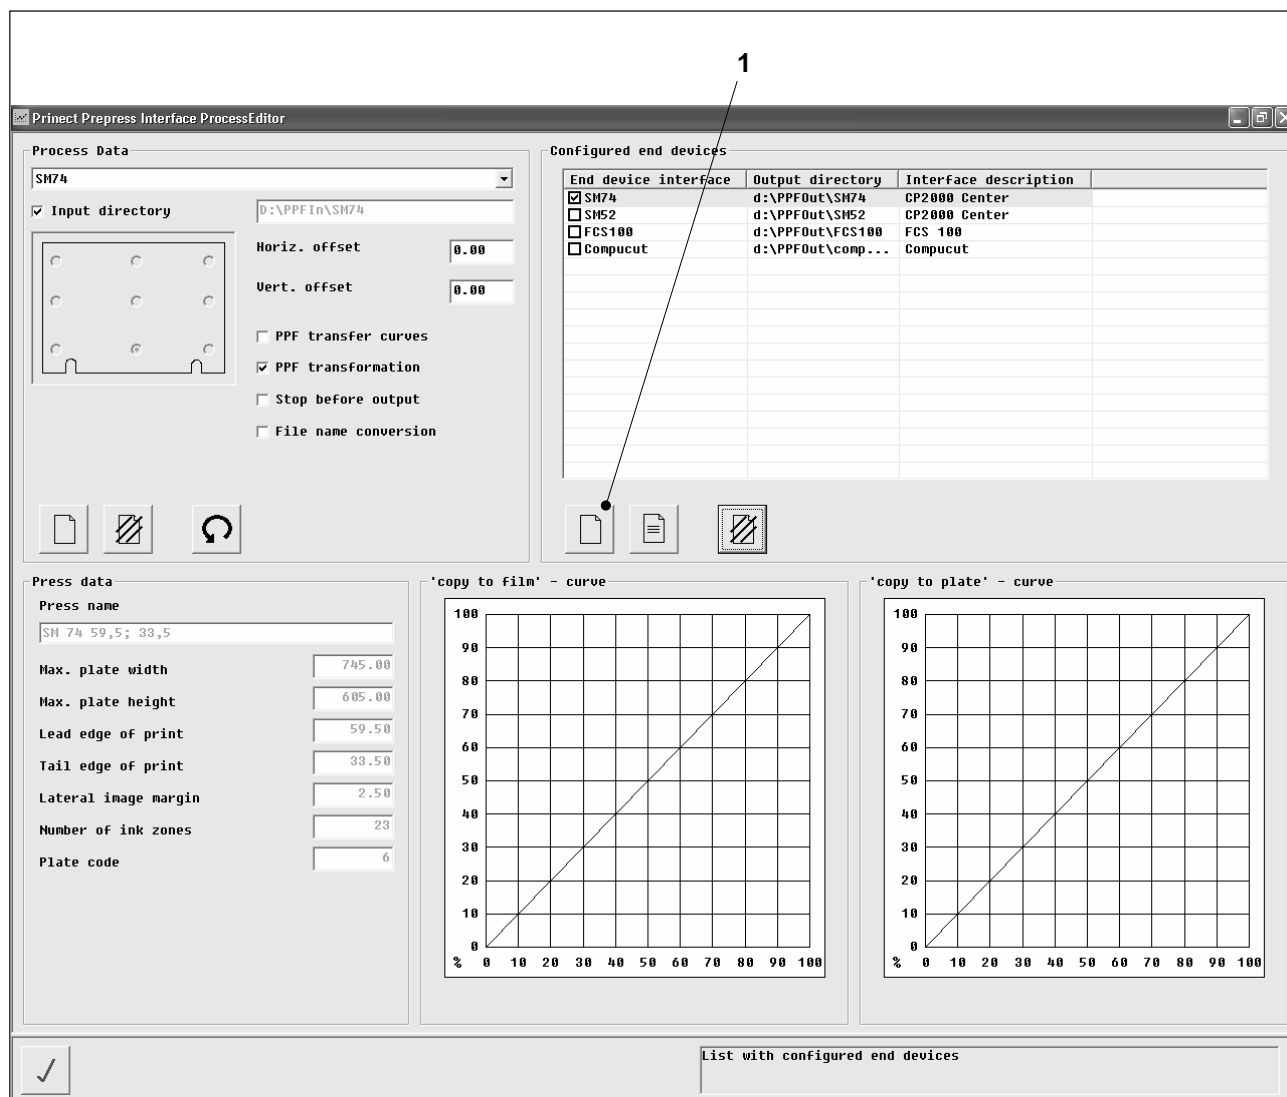

Fig. 36 The dialog window of ProcessEditor
The ProcessEditor dialog window shown in Fig. 36 appears.
2. Click on the *Set up new terminal interface* button (Fig. 36/1).